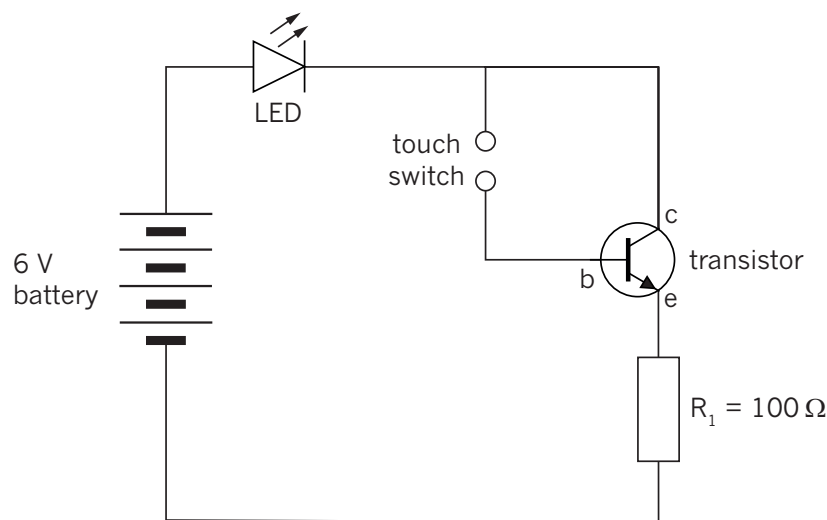

Figure 18: Circuit using a transistor as an electronic switch
Figure 18 shows a circuit that uses a transistor for this purpose. In this circuit, the touch switch is an "input device," the *npn* transistor is a "control device," and the LED is the "output device".
1. The photograph below shows a circuit built according to the circuit diagram in Figure 18. Look at the photograph and identify each component in the circuit. Redraw the photograph and write labels for the different components and draw arrows pointing from the labels to the components.